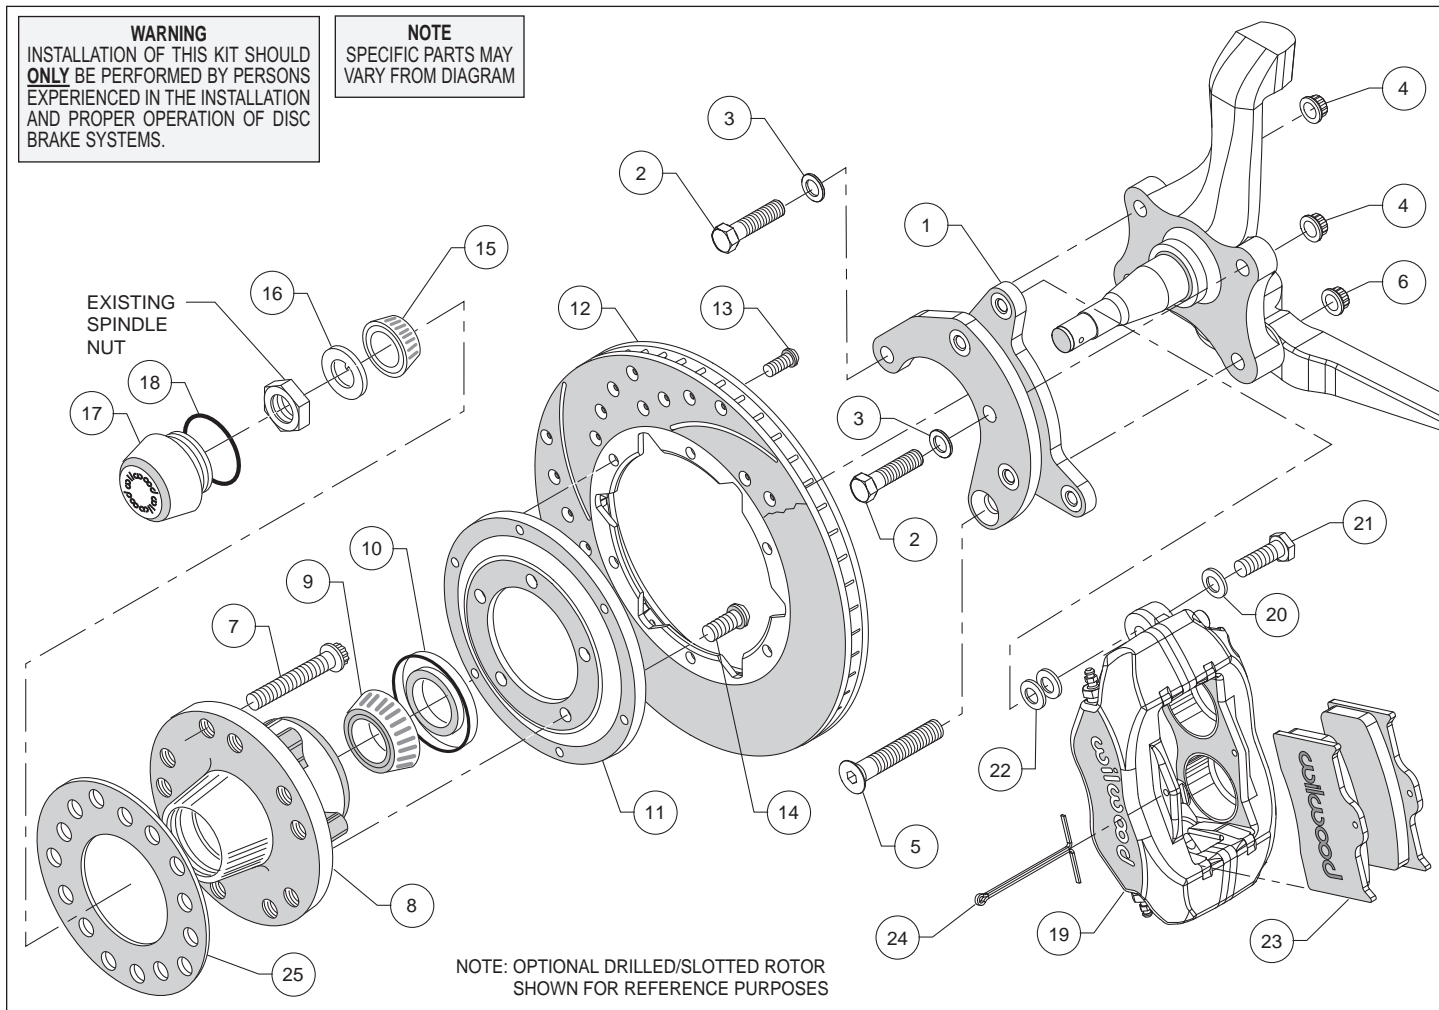
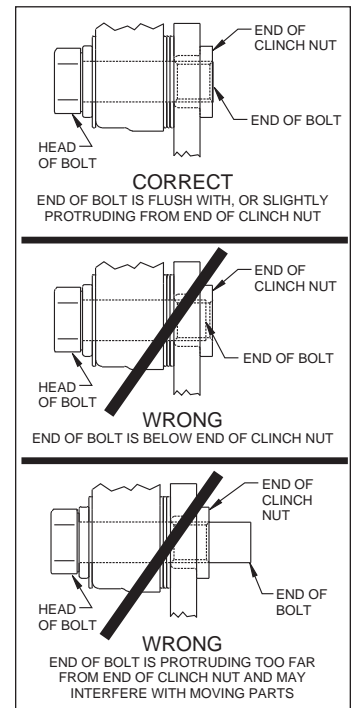

Figure 1. Typical Installation Configuration
Figure 4. Clinch Nut Engagement Diagram
Assembly Instructions (numbers in parenthesis refer to the parts list on the preceding page and Figure 1): **CAUTION:** All mounting bolts must fully engage clinch nuts. Be sure to check that all bolts are either flush or protruding through flanged side of clinch nut after shimming, Figure 4.
- Align bracket with the corresponding holes on the face of the spindle, attach using bolts (2/5), washers (3), and secure using nuts (4/6) as shown in Figure 1 and Photo 1. Temporarily tighten the mounting bolts. Ensure that the flanged heads of the clinch nuts in the bracket are facing outboard, Photo 1. **NOTE:** The bracket must fit squarely against the mounting points on the spindle. Inspect for interference from casting irregularities, machining ridges, burrs, etc. Torque lock nut (4) to 47 ft-lbs. and lock nut (6) to 65 ft-lbs.
- Install the grease seal (10) by pressing into the backside of the hub (8), flush with the end of the hub, Photo 3.
- Orient the rotor (12) and the rotor adapter (11) as shown in Figure 1 and Photo 4. Attach the rotor to the adapter using bolts (13). Using an alternating sequence, apply red *Loctite*® 271 to the threads, and torque to 25 ft-lb.
- Mount the adapter/rotor assembly (11/12) to the hub (8) using bolts (14), as shown in Figure 1 and Photo 5. Using an alternating sequence, apply red *Loctite*® 271 to the threads, and torque to 45 ft-lb.
- Pack the small outer bearing cone (15) with high temperature disc brake bearing grease and install into hub (8). Slide the hub/rotor assembly onto the spindle. Secure using spindle washer (16) and OEM spindle nut, Photo 6. Adjust bearings per OEM specifications. Install saved OEM nut lock (if any) and a new cotter pin (not supplied).
- Screw dust cap (17) into hub (8), Photo 7. Friction created by the o-ring (18) on the dust cap keeps it from unscrewing. **NOTE:** The O.D. of the existing OEM spindle washer may be larger than the I.D. of the dust cap not allowing it to seat against the hub face. Therefore, use the spindle washer (16) supplied with the kit instead of the OEM washer.
- NOTE:** Please reference the caution statement at the beginning of the assembly instructions. Mount the caliper (19) onto the caliper mounting bracket (1) using bolts (21) and washers (20), as shown in Figure 1. Initially place two .035" thick shims (22) on each bolt between the caliper and the bracket, Photo 8. Temporarily tighten the mounting bolts and view the rotor (12) through the top opening of the caliper. The rotor should be centered in the caliper, Photo 9. If not, adjust by adding or subtracting shims between the bracket and the caliper. Always use the same amount of shims on each of the two mounting bolts. **NOTE:** The end of each bolt must be flush with or slightly protruding from the head of the clinch nut, as shown in Figure 4. If necessary place spare shims between washer (20) and caliper mounting ear to achieve the proper clinch nut engagement. Once the caliper alignment and clinch nut engagement are correct, remove the bolts one at a time, apply red *Loctite*® 271 to bolt threads, and torque to 40 ft-lb.
- Install the disc brake pads (23) into the caliper, with the friction material facing the rotor (12), and secure in place using cotter pin (24), Photo 10.